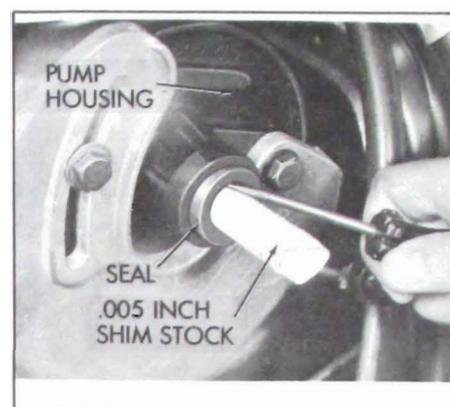

Figure 8-65—Removing Oil Pump Shaft Seal
6. Insert a piece of .005" shim stock (approximately 2-1/2" long) around shaft and push it past seal until it bottoms in pump housing. See Figure 8-65.
7. Remove seal by cutting metal body of seal with a sharp tool and prying out. See Figure 8-65. Extreme care must be used to prevent damage to shaft and pump housing.